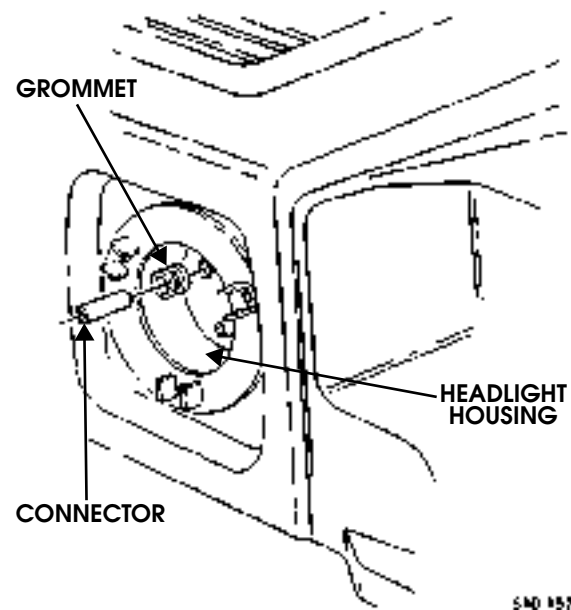

Figure 10-173: Headlight Electrical Connector and Grommet Replacement
2. Remove connector from grommet (Figure 10-173).
1. Install grommet in headlight housing (Figure 10-173).